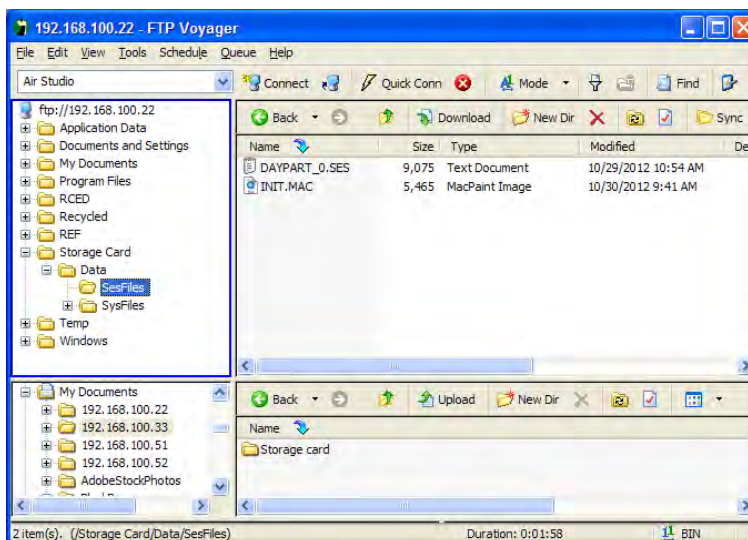

Figure 4-31. FTP Voyager – RMXd SesFiles Folder – File View
3. Click **Connect**. FTP Voyager connects to the console, and the console's file tree appears (Figure 4-31).